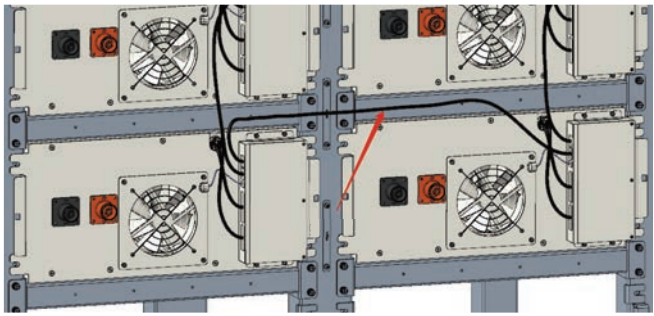

Figure 2.8
(4) Fourth and fifth battery box BMU communication connection (Figure 2.8).